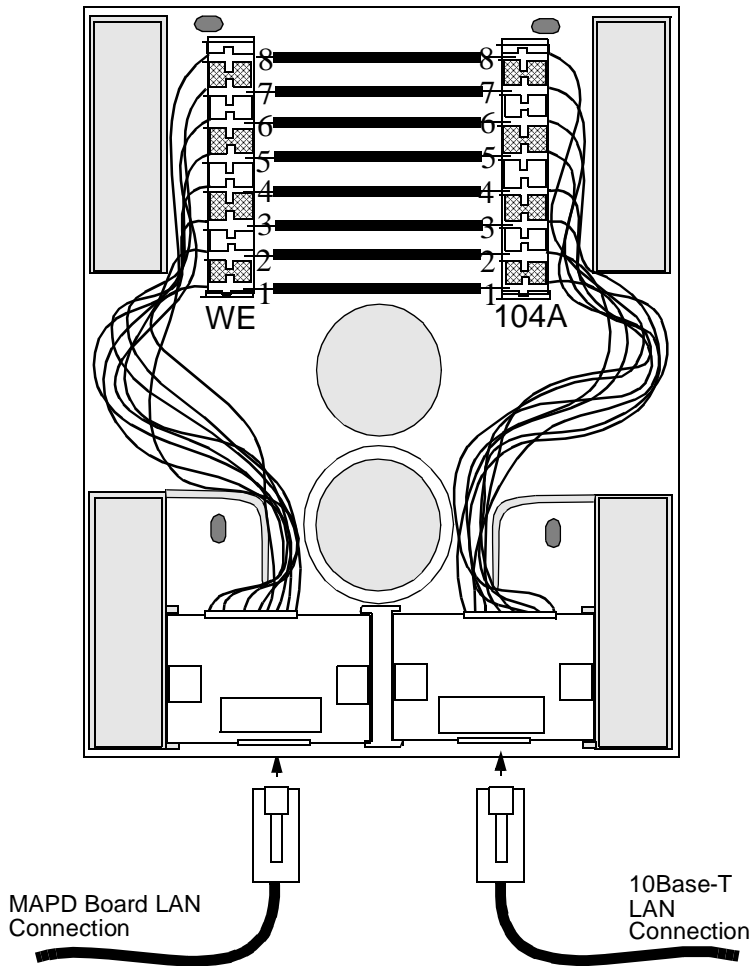

Figure 2-9. 104A Connecting Block
- A 104A connecting block will be mounted on the wall within reach of this connector. This can be supplied by Lucent Technologies. Eight wires must be hard-connected across the two mounting blocks inside the 104A prior to mounting it to the wall, as shown in Figure 2-9, “104A Connecting Block.” The ends of each wire are stripped of insulation. A punch-down tool is used to press the ends of these eight wires into the mounting blocks. Four protector caps snap over the top of the mounting blocks.